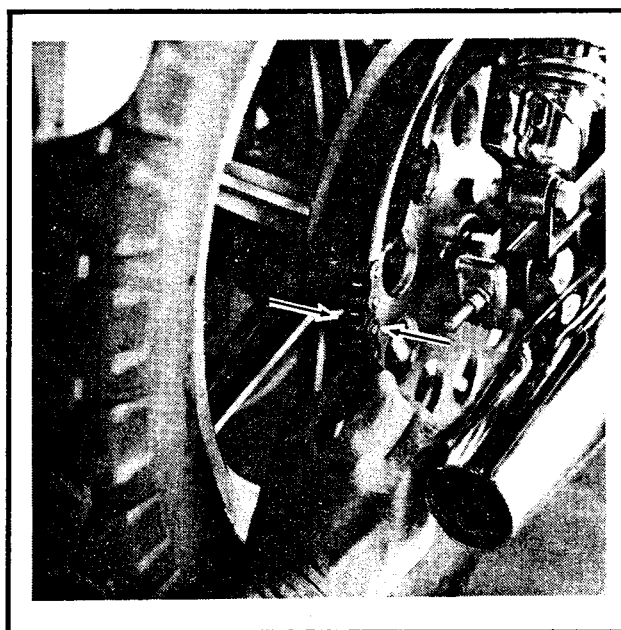

Figure 1. Inspecting Sprocket With Wheel On Vehicle
3. See Figure 1. Grasp the chain at the rear of the sprocket and move the chain from side-to-side in a plane parallel to the axle. The chain should move with relative ease, without forcing.